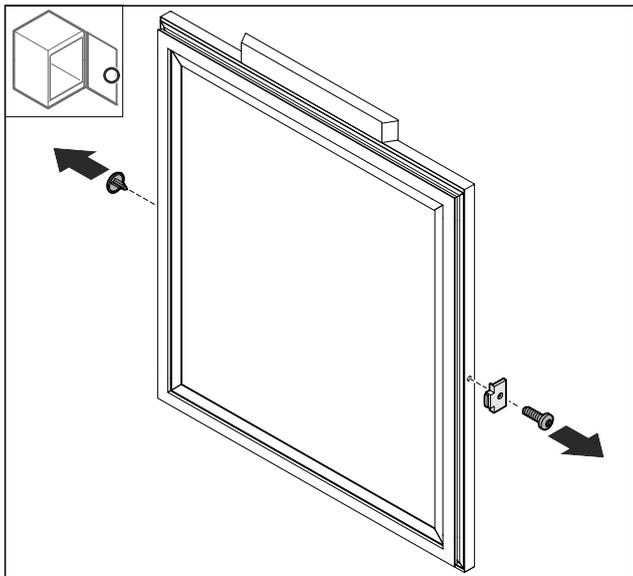

Fig. 73
- ▶ Remove cover Fig. 73 (1).
- ▶ Detach the Fig. 73 (2) door stopper.